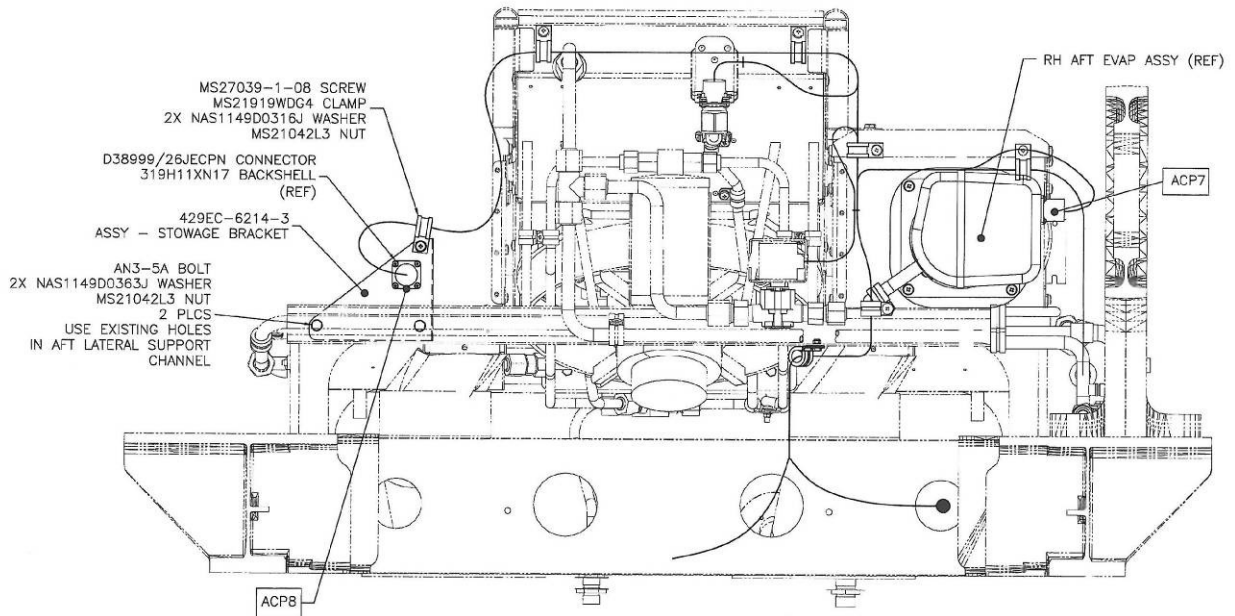

Figure 19: LH Aft Evap Connector ACP8 Stowage Bracket Details
2. Disconnect and remove MS26574-15 LH AFT circuit breaker and discard. See Figure 19.
10. Install Left Aft Evap Stowage Bracket 429EC-6214-3. See Fig 19. Plug ACP8 into Stowage Bracket and install MS21919WDG4 Clamp with MS27039-1-08 Screw and 2X NAS1149D0316J Washers.